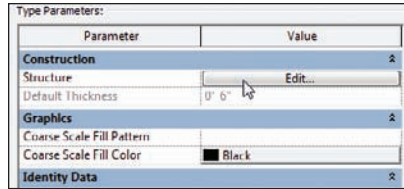

FIGURE 6.20 Clicking the Edit button in the Structure row
8. In the Structure row, click the Edit button, as shown in Figure 6.20.